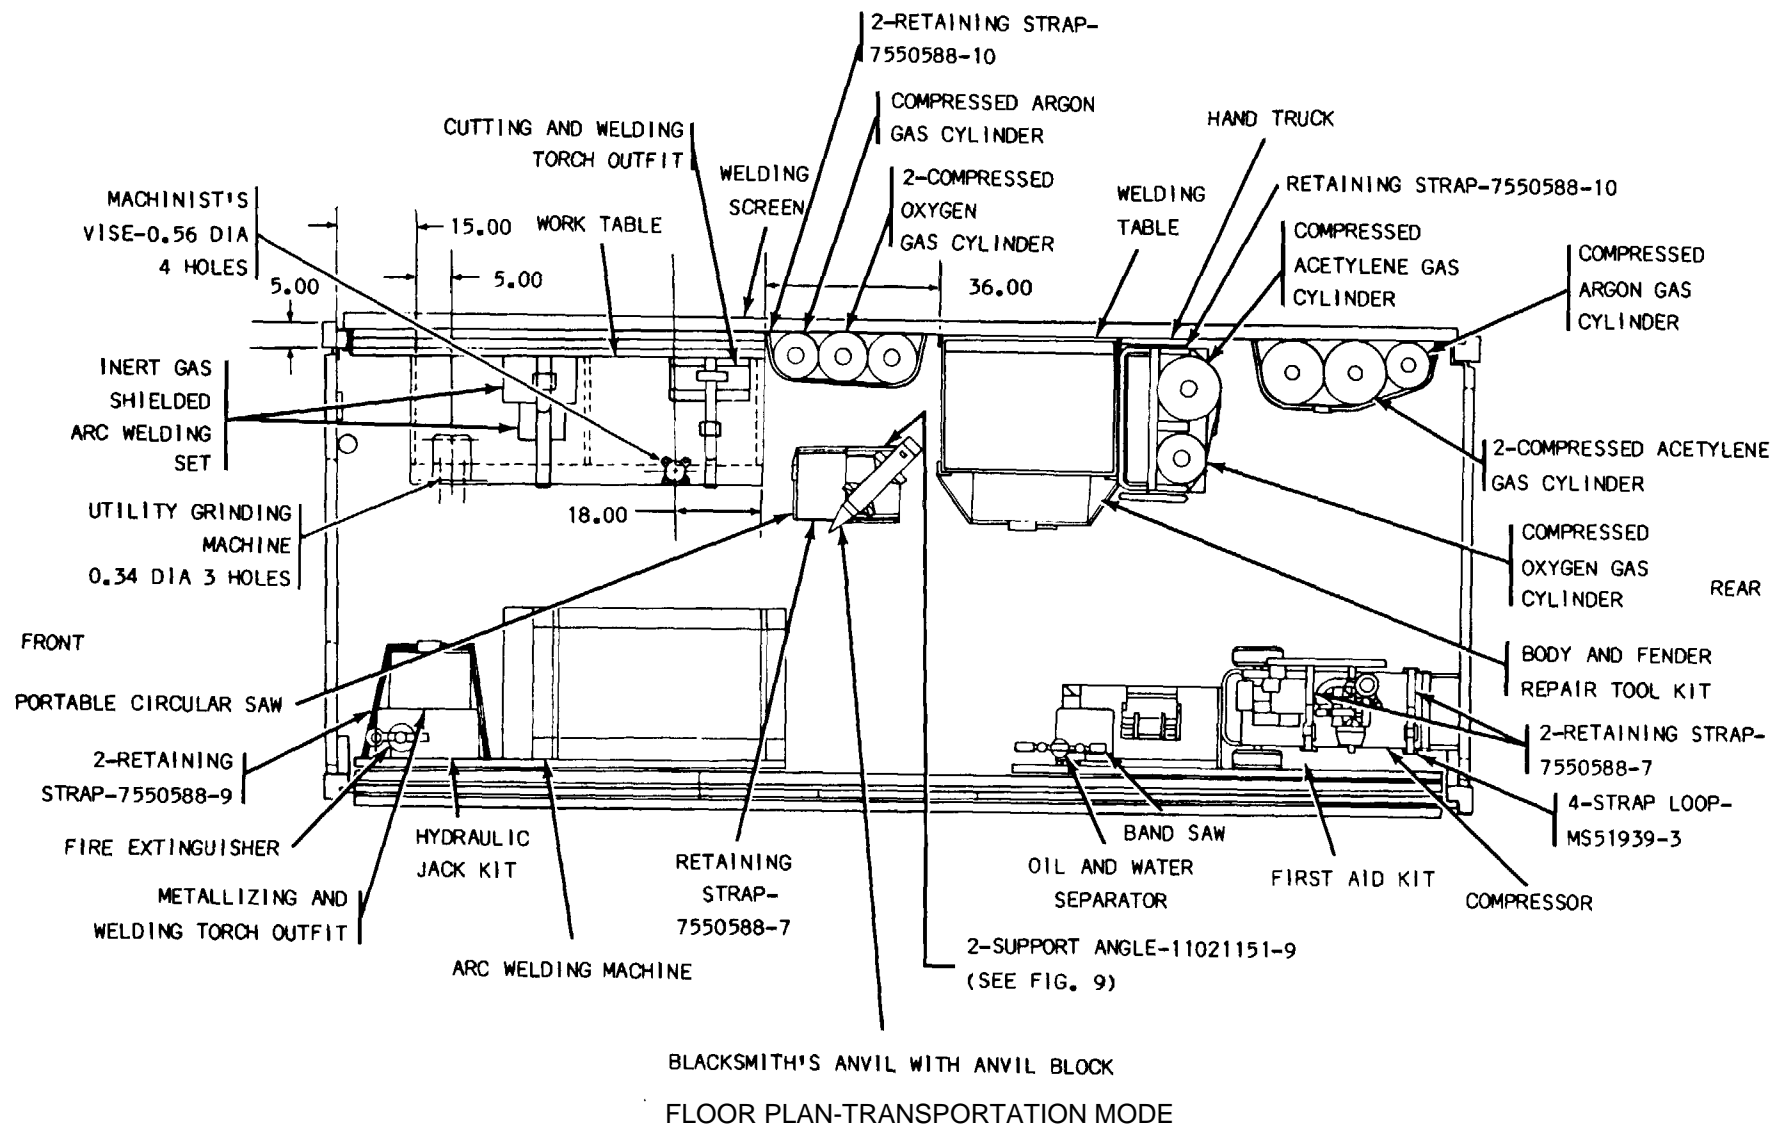
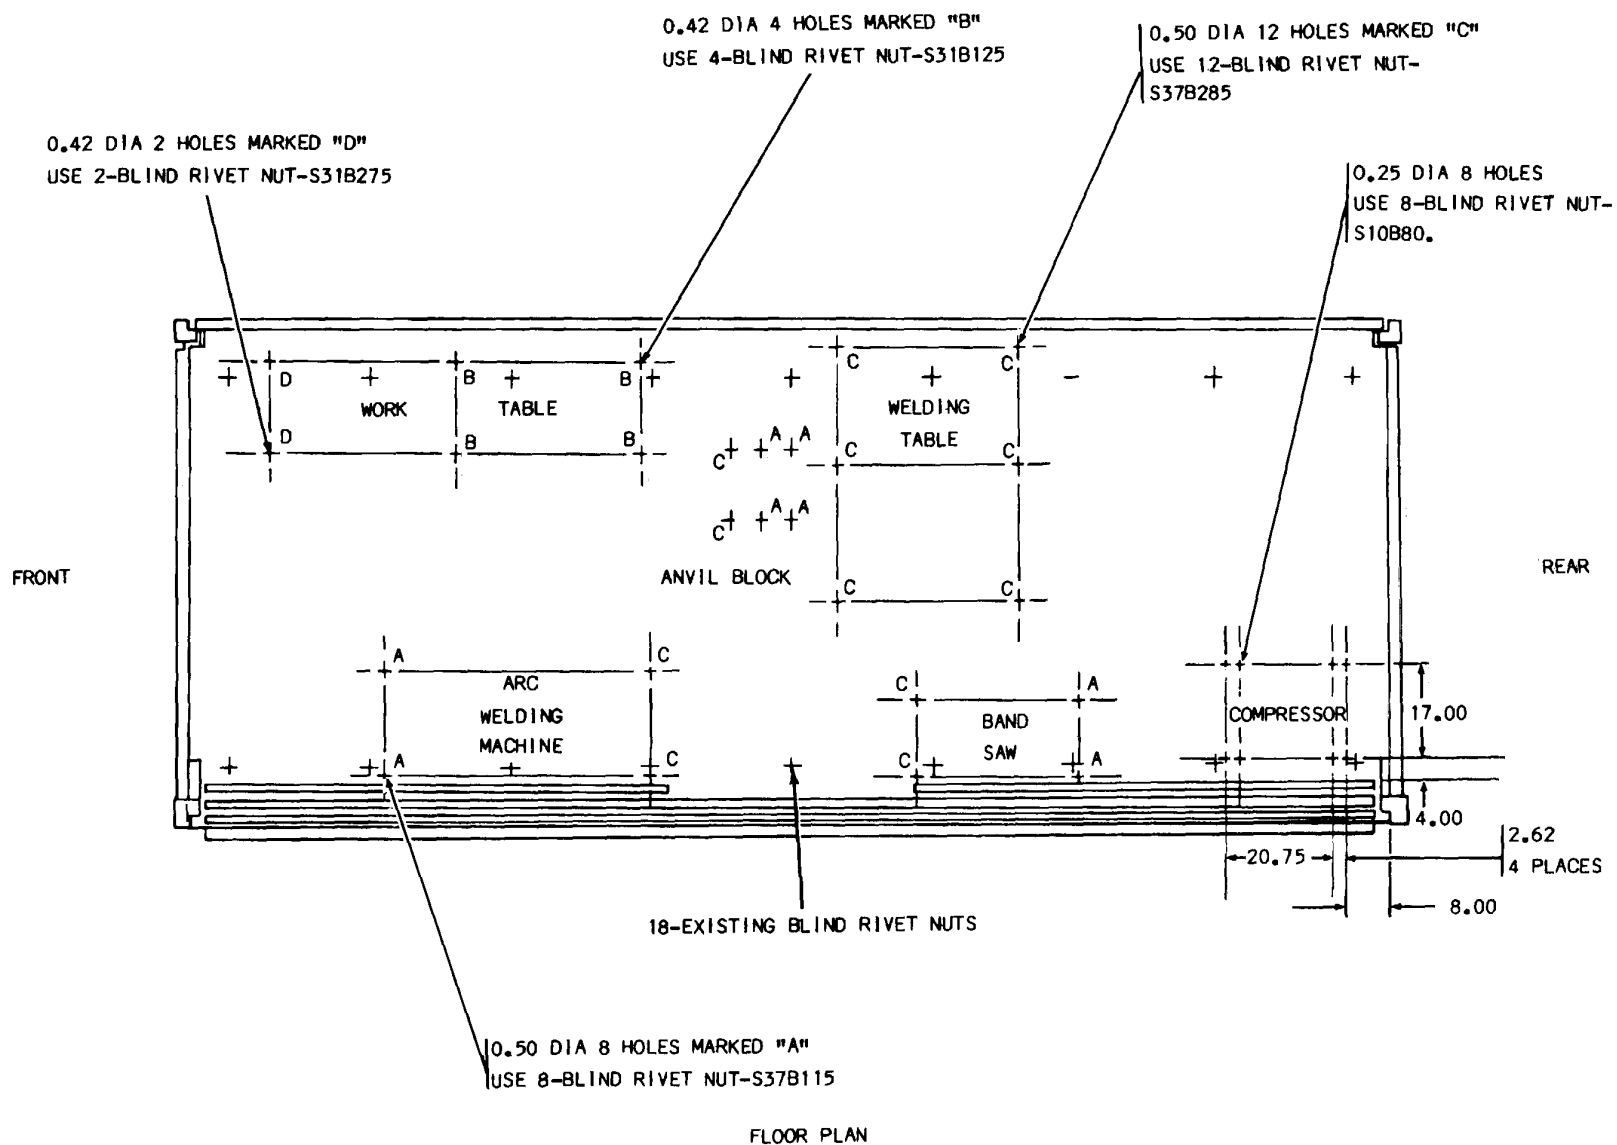
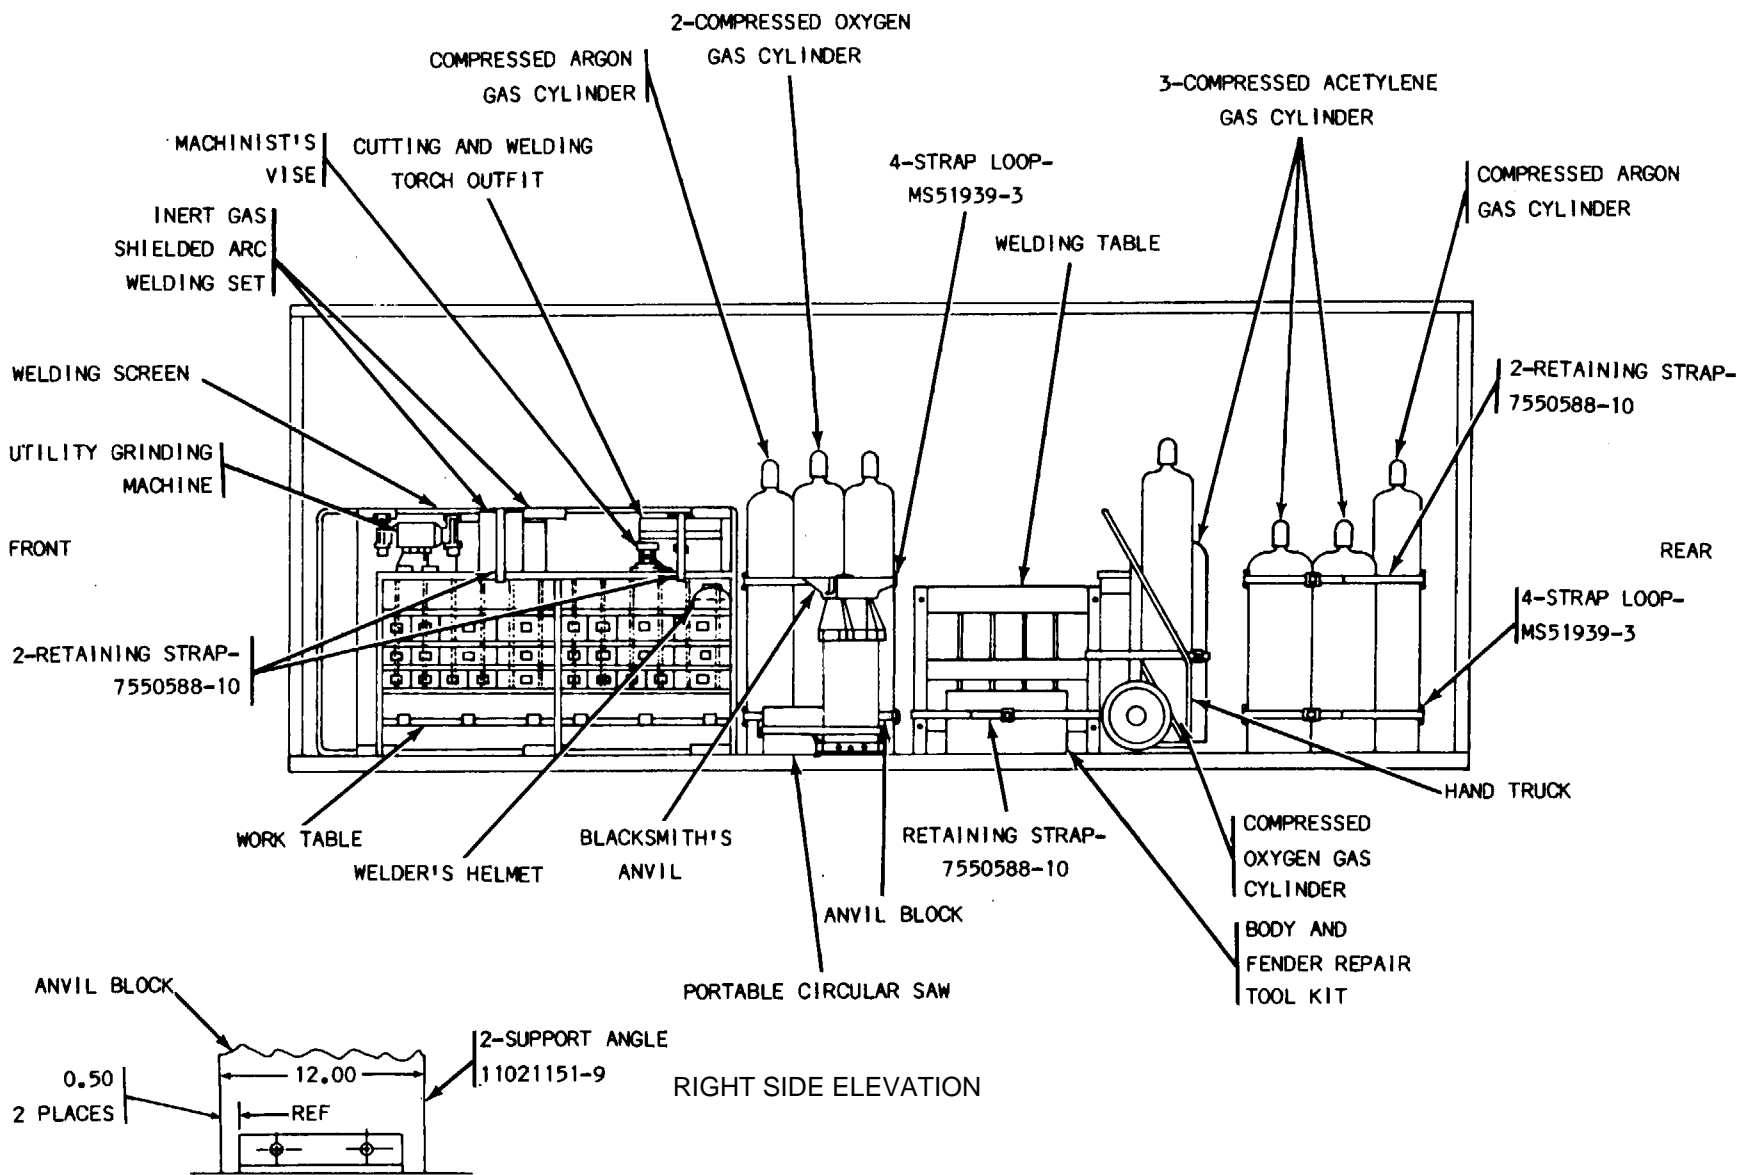

Figure 7. Components to be mounted, unit 2, ISO-2-1, floor plan.
Figure 8. Location of fixed floor-mounted blind rivet nuts, unit 2, ISO-2-1.
Figure 9. Components to be mounted right side elevation, unit 3, ISO-2-1.
Hand blind riveter (5120-00-679-6523) is used to install blind rivet nuts in floor and walls of ISO-2-1 shelter. Install blind rivet nuts in accordance with the manual supplied with the hand blind riveter. Position floor- and table top-mounted equipment as shown in figures 7, 9, 11, 13, and 14. Use the equipment mounting holes as templates for location of blind rivet nuts in accordance with figures 8 and 14. Position wall-mounted equipment as shown in figures 9 and 11, using the equipment mounting holes as templates for location of blind rivet nuts in accordance with figures 10 and 12.
(1) Mark and drill thirty-six 0.25-in. diameter holes in floor and walls to a maximum depth of 1.00 inch in accordance with figures 8, 10, and 12. Inject potting compound (8040-01-102-2098) as required; install thirty-six #10 blind rivet nuts (S10B80). Position fourteen strap loops (MS51939-3) over blind rivet nuts on floor and right and left walls in accordance with figures 7, 9, and 11. Secure strap loops, using twenty-eight #10 x 1/2-in. Countersunk head machine screws (MS35190-271).
(2) Mark and drill six 0.42-in. diameter holes in floor to a maximum depth of 1.50 inches in accordance with figure 8. Inject potting compound (8040-01-102-2098) as required; install four 5/16-in. blind rivet nuts (S31B125) and two 5/16-in. blind rivet nuts (S31B275) in accordance with figure 8.
(3) Mark and drill twenty-four 0.50-in. diameter holes in the fixed and deployed floor to a maximum depth of 1.50 inches in accordance with figures 8 and 14. Inject potting compound (8040-01-102-2098) as required; install twelve 3/8-in. blind rivet nuts (S37B115) in accordance with figures 8 and 14. Install twelve 3/8-in. blind rivet nuts (S37B285) in accordance with figure 8.
c. Follow steps (1) thru (22) below for equipment installation in ISO-2-1 shelter, unit 2.
(1) Position arc welding machine (3431-00-903-5647) against front left wall in accordance with figures 7 and 11. Mark and drill four 0.41-in. diameter holes in frame. Position over installed floor-mounted blind rivet nuts in accordance with figure 8. Secure arc welding machine to floor, using two 3/8-x 7/8-in. hex head capscrews (MS90725-59) installed in front end of arc welding machine, two 3/8- x 1-1/8-in. hex head capscrews (MS90725-61) installed in rear end of arc welding machine, and four 3/8-in. lockwashers (MS35338-46).
(2) Position work table (4910-00-543-7771) near front right wall in accordance with figures 7 and 9. Mark and drill six 0.34-in. diameter holes in work table legs. Position over installed floor-mounted blind rivet nuts in accordance with figure 8. Secure work
(3) Position welding table (3436-00-847-3772) against middle right wall in accordance with figures 7 and 9. Mark and drill four 0.41-in. diameter holes through welding table legs. Position over installed floor-mounted blind rivet nuts in accordance with figure 8. Secure welding table to floor, using four 3/8-xl-1/8-in. hex head capscrews (MS90725-61) and four 3/8-in. lockwashers (MS35338-46).
(4) Position band saw (3405-00-517-0592) against rear left wall in accordance with figures 7 and 11. Mark and drill four 0.41-in. diameter holes through band saw legs. Position over installed floor-mounted blind rivet nuts in accordance with figure 8. Secure band saw to floor, using two 3/8- x 7/8-in. hex head capscrews (MS90725-59) installed in rear end of band saw, two 3/8 x 1-1/8-in. hex head capscrews (MS90725-61), and four 3/8-in. lockwashers (MS35338-46).
(5) Position two support angles (11021151-9) on anvil block (5120-00-449-6644) flush with bottom of anvil block in accordance with figure 9. Using support angles as templates, mark and drill four 0.22-in. diameter pilot holes in bottom of anvil block. Secure support angles to anvil block, using four 5/16- x 1-1/4-in. hex head lag bolts (MS16992-521) and four 5/16-in. lockwashers (MS35338-45).
(6) Position anvil block, with attached support angles, next to welding table in accordance with figures 7 and 9. Position support angles over installed floor-mounted blind rivet nuts in accordance with figure 8. Secure anvil block to floor, using four 3/8-xl-in. hex head capscrews (MS90725-60), two 3/8- x 1-1/4-in. hex head capscrews (MS90725-62) installed in front set of blind rivet nuts, and six 3/8-in. lockwashers (MS35338-46).
(7) Position blacksmith's anvil (5120-00-180-2885) on top of anvil block in accordance with figures 7 and 9. Using anvil base as a template, mark and drill two 0.22-in. diameter pilot holes in top of anvil block. Secure blacksmith's anvil to anvil block, using two 5/16- x 2-1/2-in. lag screws (MS16992-525) and two 5/16-in. lockwashers (MS35338-45).
(8) Position mounting bracket of fire extinguisher (4210-00-555-8837) on left front wall in accordance with figure 11. Mark and drill three 0.22-in. diameter holes in mounting bracket. Position over installed wall-mounted blind rivet nuts in accordance with figure 12. Secure mounting bracket to wall, using three #10 x 1/2-in. countersunk head machine screws (MS35190-271). Install fire extinguisher in bracket (fig. 7).
(11) Position hydraulic jack kit (5120-00-595-8388) and metallizing and welding torch outfit (3433-00-880-0512) against the front left corner wall in accordance with figures 7 and 11. Secure to wall, using two 66-in. Retaining straps (7550588-9) joined together.
(12) Position utility grinding machine (3415-00-517-7754) on top of work table in accordance with figures 7 and 9. Using the utility grinding machine base as a template, mark and drill three 0.34-in. diameter holes through table top. Secure utility grinding machine, using three 5/16- x 2- 1/2-in. machine bolts (MS90725-42), three 5/16-in. flat washers (MS27183-11), three 5/16-in. lockwashers (MS35338-45), and three 5/16-in. Hex nuts (MS51967-5).
(13) Position machinist's vise (5120-00-293-1439) on top of work table in accordance with figures 7 and 9. Using machinist's vise base as a template, mark and drill four 0.56-in. diameter holes through table top. Secure machinist's vise to table top, using four 1/2- x 3-in. hex head capscrews (MS90725-119), four 1/2-in. flat washers (MS27183-17), four 1/2-in. Lockwashers (MS35338-48), and four 1/2-in. hex nuts (MS51967-14).
(14) Position inert gas shielded arc welding set (3431-00-691-1415) and cutting and welding torch outfit (3433-00-357-6311) on top of work table in accordance with figures 7 and 9. Secure to work table, using two 110-in. retaining straps (7550588-10).
(15) Position welding screen (3439-00-198-8348) between the right front wall and the work table in accordance with figures 7 and 9.
(16) Position welder's helmet (4240-00-540-0623) in work table in accordance with figure 9.
(17) Position compressed argon gas cylinder (8120-00-248-0174) and two compressed oxygen gas cylinders (8120-00-151-9758) against the middle right wall in accordance with figures 7 and 9. Secure to wall, using two 110-in. retaining straps (7550588-10).
(18) Position portable circular saw (5130-00-293-1162) against anvil block in accordance with figures 7 and 9. Secure portable circular saw to anvil block, using a 92-in. retaining strap (7550588-7).
(19) Position body and fender repair tool kit (5180-00-357-7731) in front of welding table in accordance with figures 7 and 9. Secure, using 110-in. retaining strap (7550588-10).
(20) Position hand truck (3920-01-113-0117) on side of welding table and position compressed oxygen gas cylinder (8120-00-151-9758) and compressed acetylene gas cylinder (8120-00-268-3360) on hand truck in accordance with figures 7 and 9. Secure to welding table, using 110-in. retaining strap (7550588-10).
(21) Position two compressed acetylene gas cylinders (8120-00-268-3360) and compressed argon gas cylinder (8120-00-248-0174) against rear right wall in accordance with figures 7 and 9. Secure, using two 110-in. Retaining straps (7550588-10).
(22) Position compressor (4310-00-861-9820) in rear left corner in accordance with figures 7 and 11. Secure, using two 92-in. retaining straps (7550588-7).